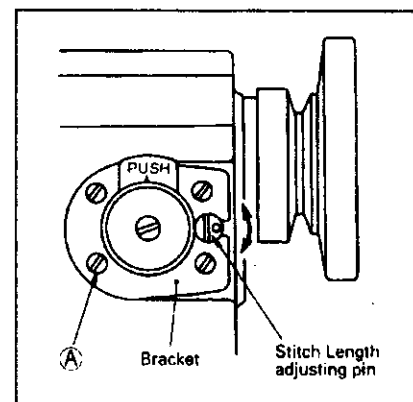

Fig.27
27. Adjustment of stitch length and forward/backward sewing (Fig.27):